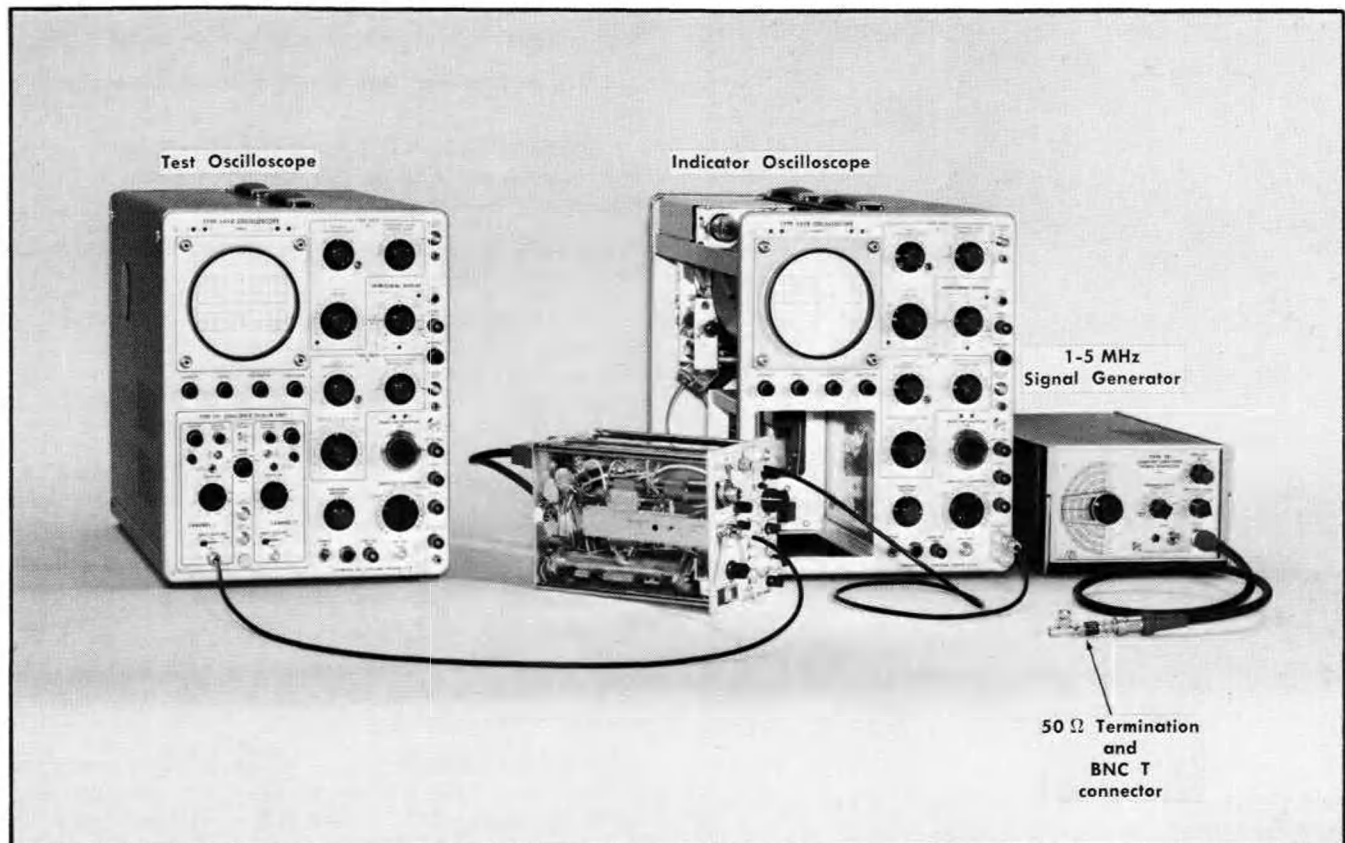

Fig. 5-16. Equipment setup to adjust avalanche voltage, 1 MHz internal reference frequency and check 1 MHz to 5 MHz external reference frequency range.
a. The equipment setup for this step is shown in Fig. 5-16.